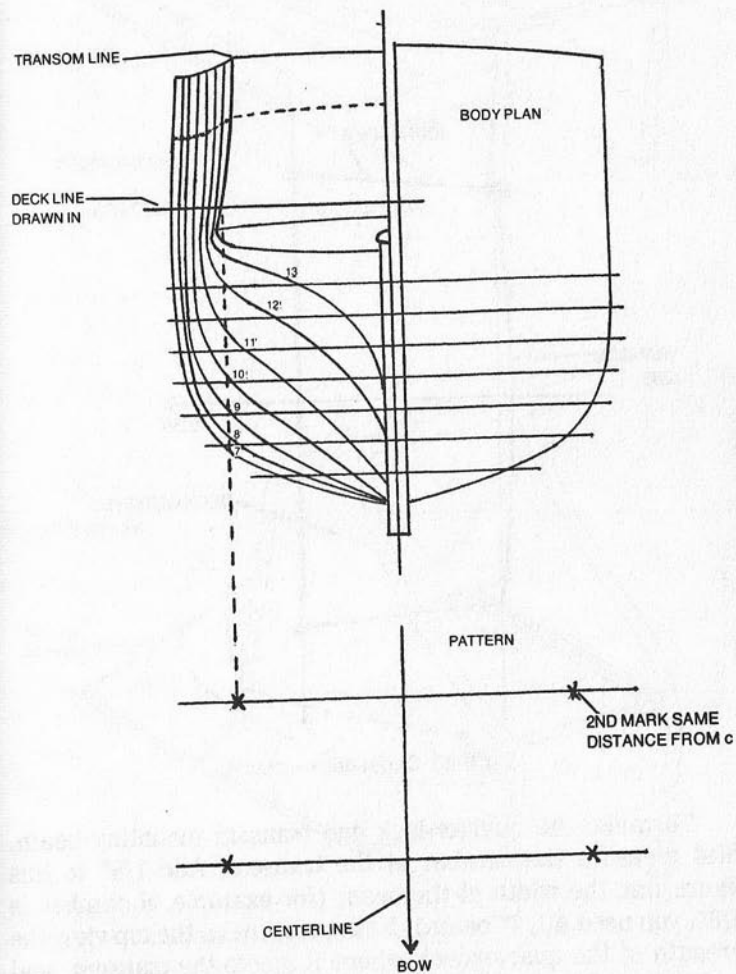

Fig. 6-25. Cabin deck—step 3.
3. Again on the body plan, measure the distance from the centerline to the point where the deckline meets the transom. On the other line on the working drawing, mark this distance in both directions from the centerline. Join the marks to form a quadrangle. (See Fig. 6-25.)